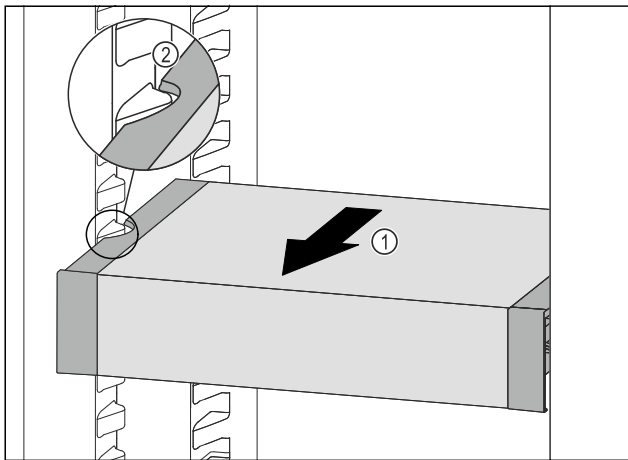

Fig. 170
- Pull VarioSafe forwards Fig. 170 (1) until the recesses in the side of the VarioSafe are at the level of the support rib in the fridge section. Fig. 170 (2)